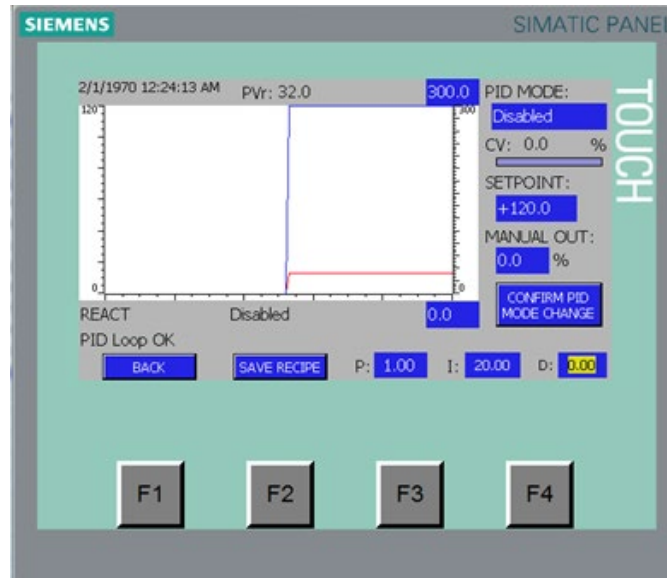

Figure 3-9
1. To check the reactivation outlet temperature, from the Machine Running screen (Figure 3-3) press the PROCESS SETUP button followed by the R_OUT button to go to the Reactivation PID screen. See Figure 3-9.
4. From the Reactivation Setpoint and PID screen (Figure 3-9), press the P, I, or D text box to highlight the corresponding field for the control values. The system will present a screen which sets the PID parameters for the reactivation control system. Use the pop-up keyboard to select any characters to change. Press Enter again to save the changes and return to the Reactivation Setpoint and PID screen.
5. From the Reactivation Setpoint and PID screen (Figure 3-9), press the min or max text box to highlight the corresponding field for chart scale. The system will present a screen which sets the min or max chart scale values. Use the pop-up keyboard to select any characters to change. Press Enter again to save the changes and return to the Reactivation Setpoint and PID screen.
6. From the Reactivation Setpoint and PID screen (Figure 3-9), press the PID MODE text box to highlight the field for the PID mode. The system will present the following options for PID modes:
7. From the Reactivation Setpoint and PID screen (Figure 3-9), press the BACK button, followed by MISC SETUP. The system will present a screen which sets the maximum and minimum values for the system sensors. In order to change these values, select the field and make the changes as described above.